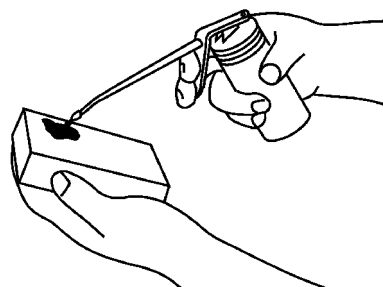

Figure 18
5. Apply one tablespoon of SAE 30W oil to the air filter (Fig. 18).